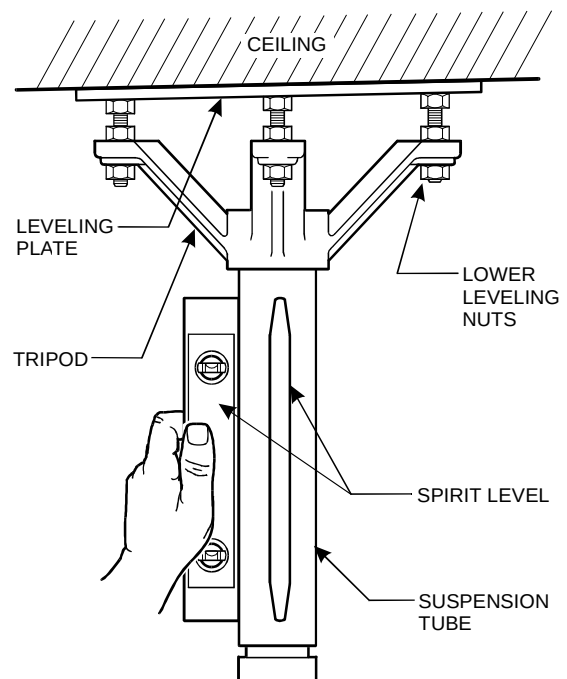

Figure 3
1. Place a spirit level against the side of the suspension tube and adjust the lower leveling nuts until the tube is plumb (See Figure 3).
3. When the suspension tube is plumb in both directions tighten the middle nut against the tripod (See Figure 3).